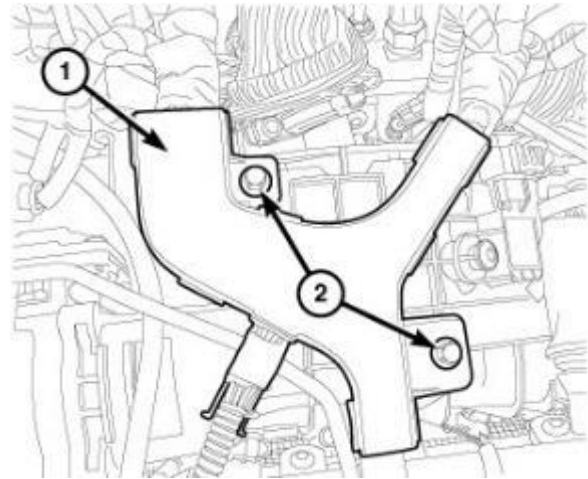

Figure 7 – Engine Wiring Harness
10. Remove the bolts (2) and pull up on the engine wire harness assembly (1) to release retainers from the intake manifold (Figure 7).